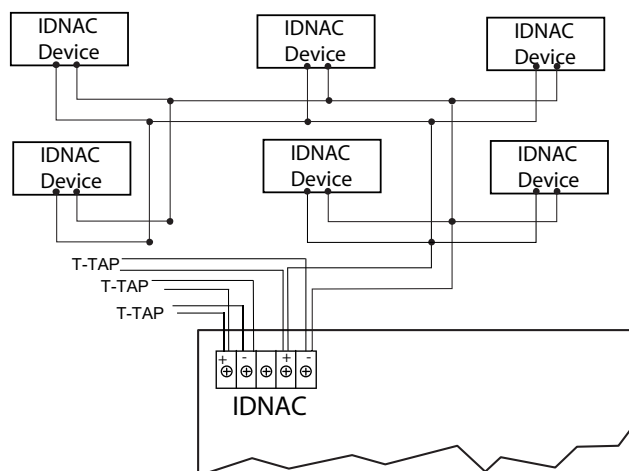

Figure 4-3. Class B Wiring
2. Each IDNAC + and - terminal is rated for 2 identical wires. This allows up to 4 Class B T-TAP circuits directly from each IDNAC terminal block. See Figure 4-3.